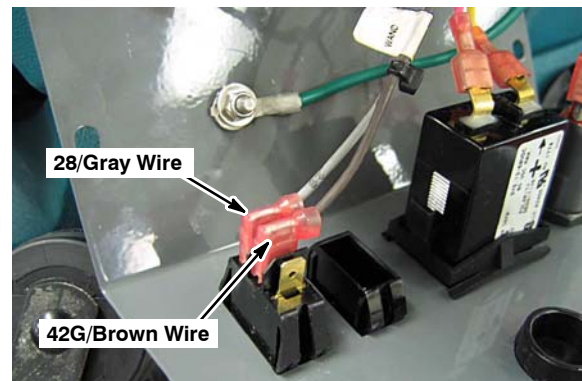

Fig. 9
14. Locate wires 28/gray and 42G/brown inside the switch console. The wires will be identified with a tag labeled "WAND". Connect the 42G/brown wire to the middle switch terminal and connect the 28/gray wire to the bottom terminal (Figure 9).